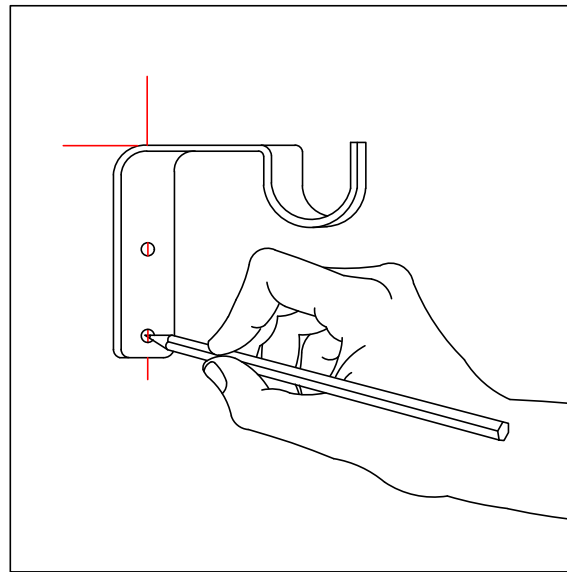

Fig. 2
- B. Mark with pencil. *[Fig. 2]*